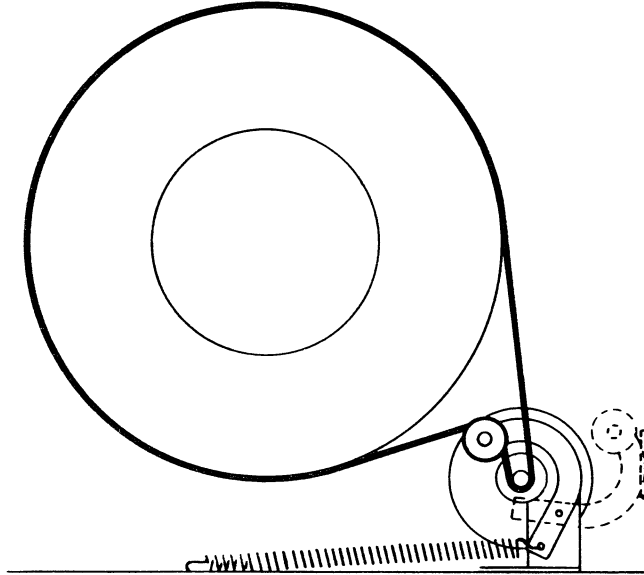

Figure 14
From the rear - remove the rear panel. Reach in with the left hand and pull the idler pulley arm to the left. With the right hand fit the belt over the motor pulley and idler. Release the idler arm slowly to take up the slack in the belt - see Figure 14.
**CAUTION:** Idler arm is under tension. When released, it will move to position indicated by the broken lines in Figure 14.